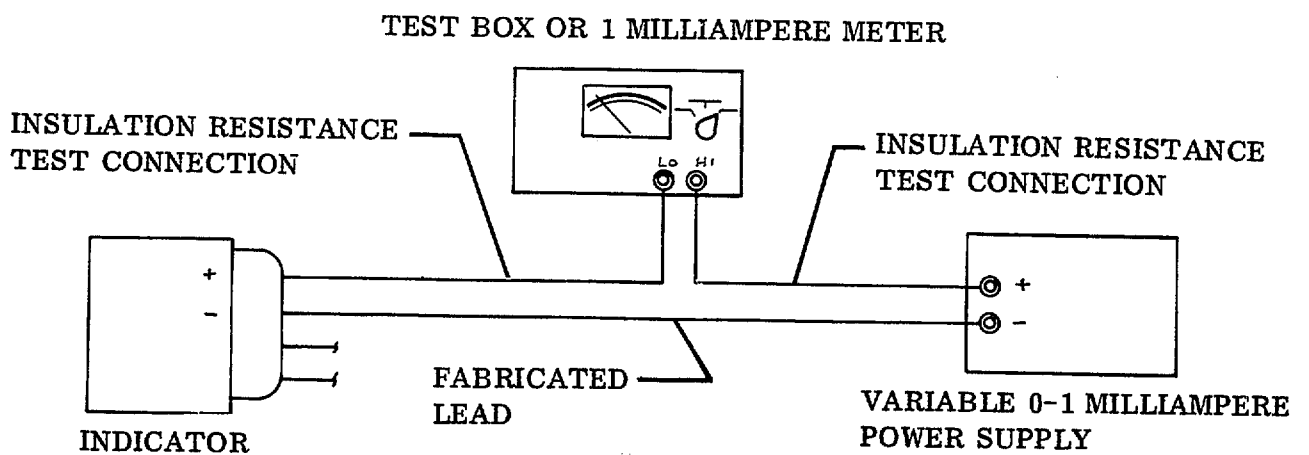
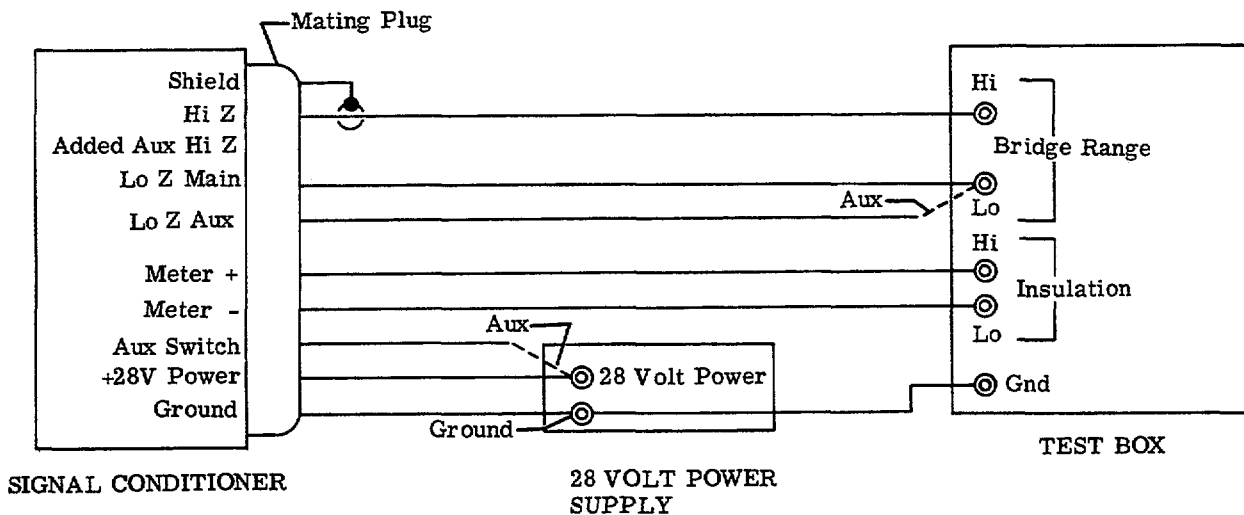

Figure 3. Checking Indicator
Figure 4. Checking Signal Conditioner
Test harnesses to accomplish testing of the indicator and signal conditioner have not been furnished with the test box. The harnesses to accomplish the testing can be fabricated from standard shop wire without difficulty. Reference Figure 3 and Figure 4 for wiring. Use 20 or 22 gauge wire for fabricating harness. HiZ Leads must be shielded wire.
Do not press "Press to Read" button in insulation section when the test box is connected per Figure 3 or 4. This may cause damage to the indicator or signal conditioner.
TEST BOX SETTING (See Figure 3).
To test the Indicator, a check of the milliampere input versus indication in pounds should be made. The following test setup may be used per the schematic on Figure 3.
1. Connect the Test Box to the Indicator and the 1 milliamp Power Supply per the schematic shown on Figure 3.
SIGNAL CONDITIONER TEST (See Figure 4).
To test the Signal Conditioner, a harness assembly must be fabricated per the schematic shown in Figure 4.
1. Connect Signal Conditioner to Test Box with the fabricated test harness as shown on Figure 4.